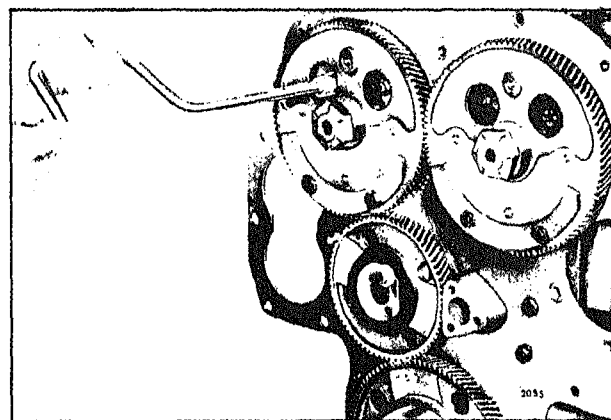

Fig. 2 - Removing or Installing Thrust Washer Retaining Bolts
11. Remove the two retaining bolts that secure the camshaft or balance shaft thrust washer to the cylinder block by inserting a socket wrench through a hole in the web of the gear as shown in Fig. 2.